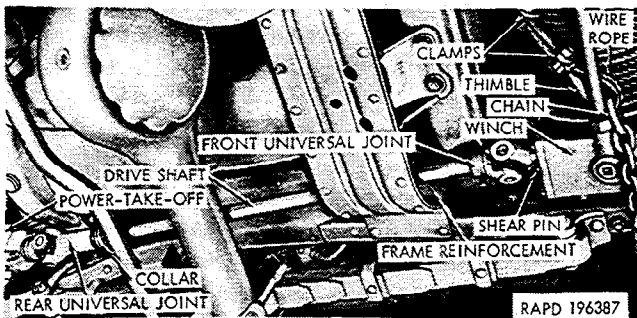

Figure 2-171. Winch drive shaft and universal joints.
(1) If the drive shaft (fig. 2-171) is equipped with a collar, remove the locking wire from the collar setscrew, loosen the setscrew, and slide the collar forward.